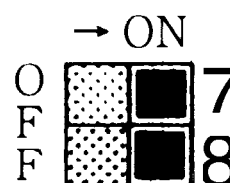

Fig. 5
- 12) Set the Infinity to 'Forced High' combustion by setting both No. 7 and No. 8 dipswitches of the top (SW1) set to 'ON'. (fig 5) Ensure maximum water flow.